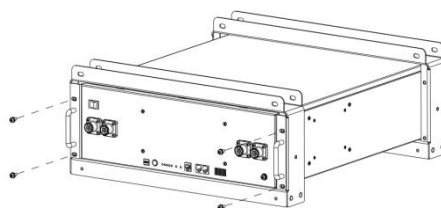

Figure 3-5
1.Place the DL5.0 and brackets as shown in the figure3-5, and insert the DL5.0 into the brackets.Use 4 screws to fix the module on the front bracket.